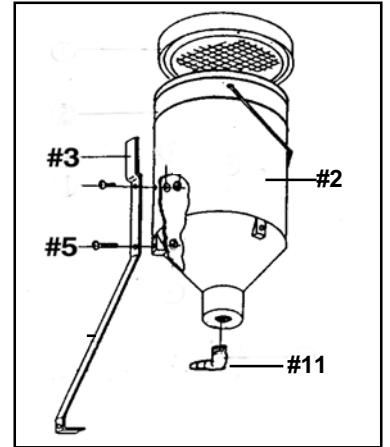

Figure 1
2. Attach the three Leg Pieces (#3) to the Tank (#2) with the Screws (#5) **See Figure 1.**
5. Attach the Connector (#11) to the bottom of the Tank (#2) by threading it through the hole with your hand, Hand tighten to secure. **See Figure 1.**